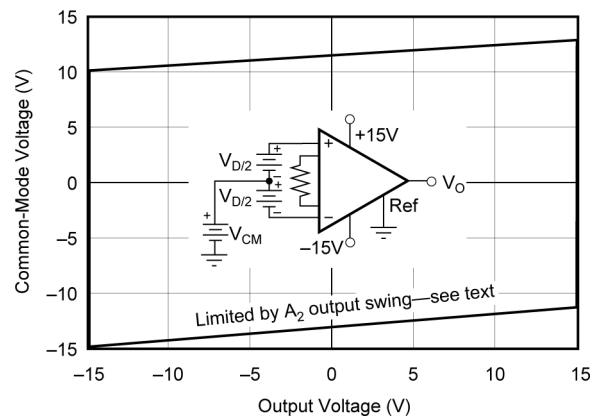
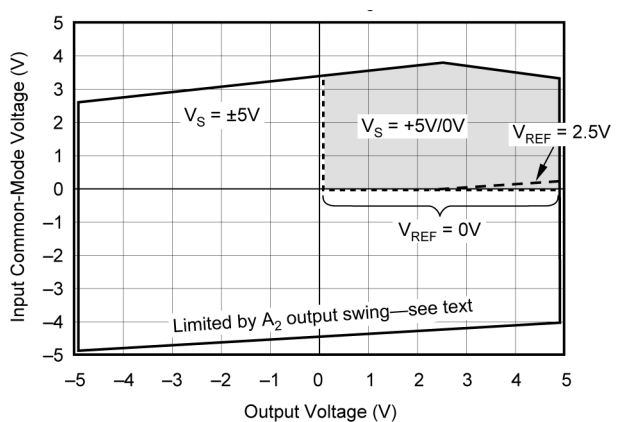

Figure 5-5. Input Common-Mode Range vs Output Voltage, $V_S = \pm 15\text{V}$, $G = 5$
Figure 5-6. Input Common-Mode Voltage vs Output Voltage, $V_S = \pm 15\text{V}$, $G = 5$
- (1) Input voltage range of the INA122 input stage. The input range depends on the common-mode voltage, differential voltage, gain, and reference voltage. See *Typical Characteristic* curves Figure 5-5 and Figure 5-6 for more information.
- (2) The values specified for $G > 5$ do not include the effects of the external gain-setting resistor, R_G .